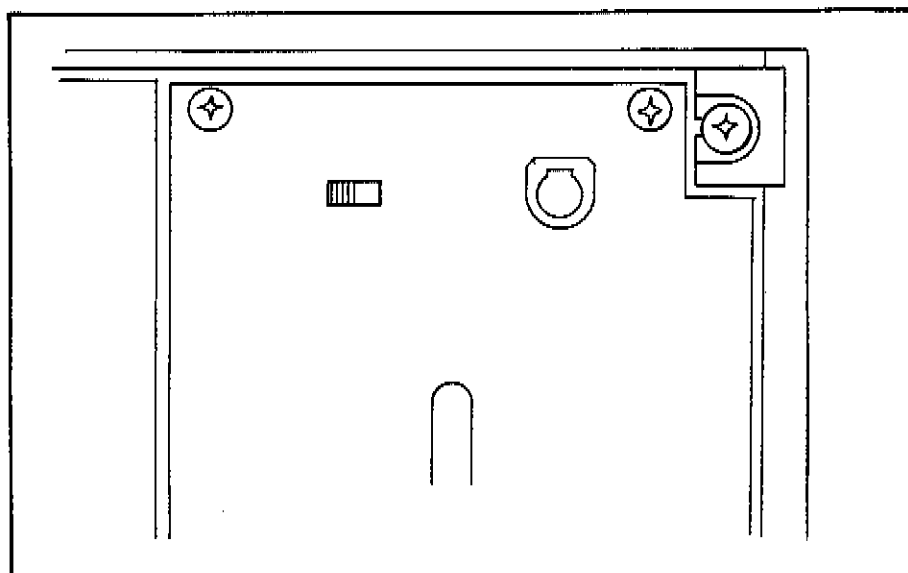

Figure 4.
On page 2-3, Figure 2-2, replace item 6 (dual power input banana jacks) with a single external power input connector as shown in Figure 4.